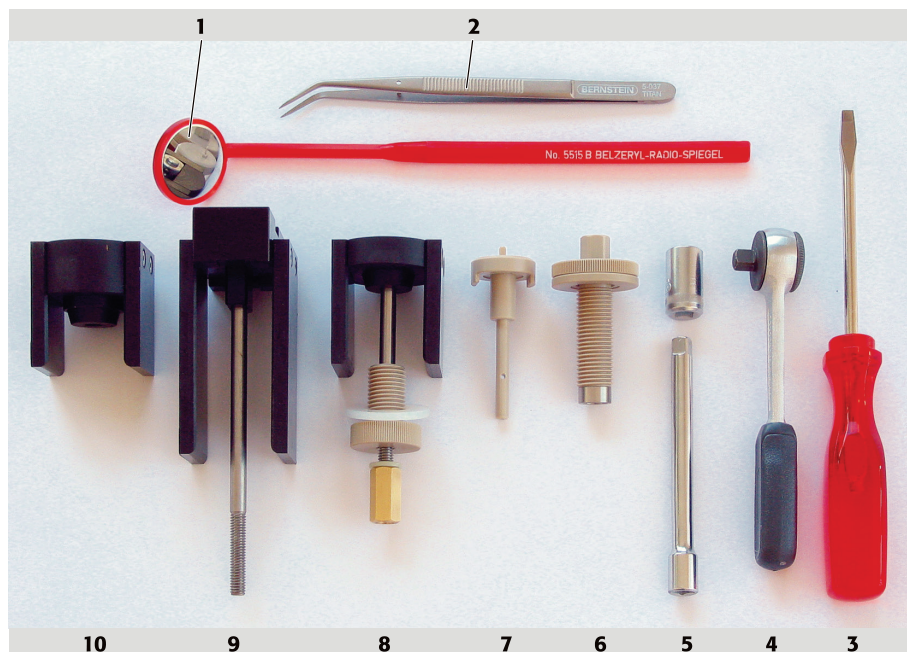

Fig. 54 Furnace tools
Screw the press-out tool (6 in Fig. 54) as far as the stop in the furnace jaw using a ratchet wrench (4 in Fig. 54). Keep carefully rotating the press-out tool in until the electrode falls out of the electrode holder. Unscrew the press-out tool from the jaw.
3. Screw in the press-out tool (6 in Fig. 54) in place of the removed temperature sensor as far as the stop.